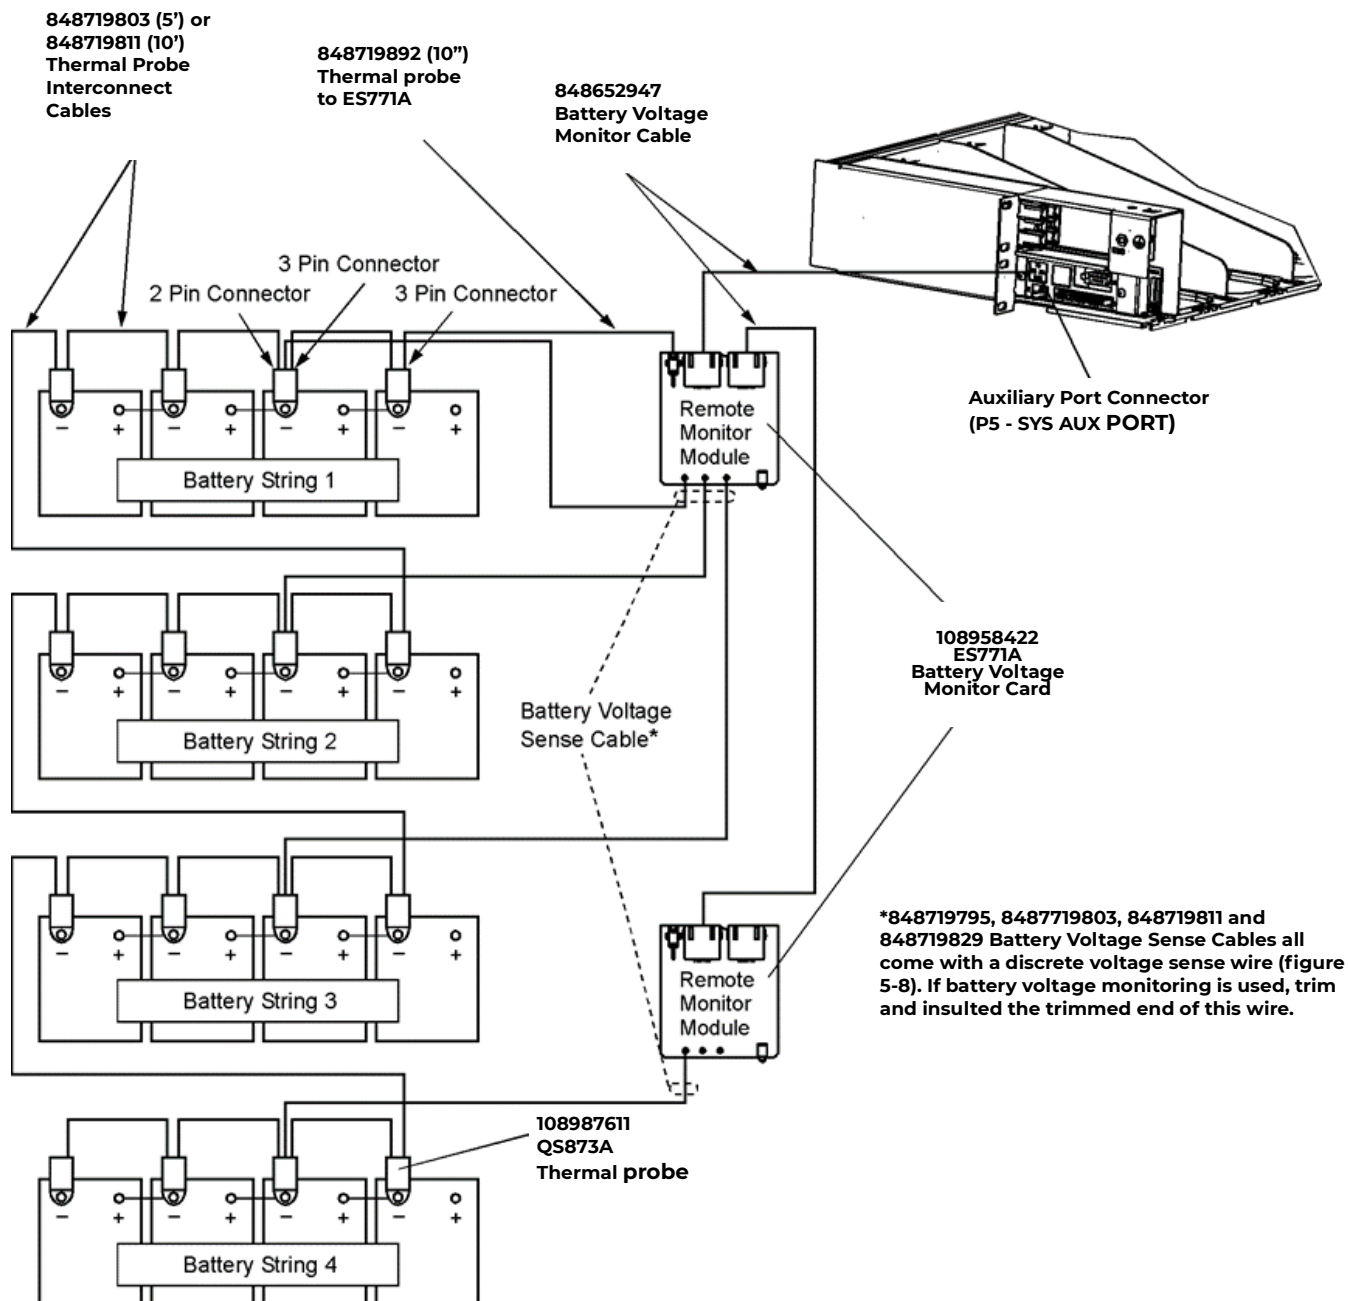

Figure 5-10: VT-Probe/Battery Voltage Monitor Connections to Controller
2.	<div> <div> No - Locate the 848719795 ThermalProbe Cable. Near the 3 Pin connector (Probe end), the volt sense wire has a 1 Pin connector on the end, cut and discard this wire and insulate the trimmed end. </div> <div> Yes - Connect the 848652947 Battery Voltage Monitor Cable between the ES771A Battery Voltage Monitor Card and the controller P5- SYS AUX PORTconnector. See Figure 5-10. </div> </div>